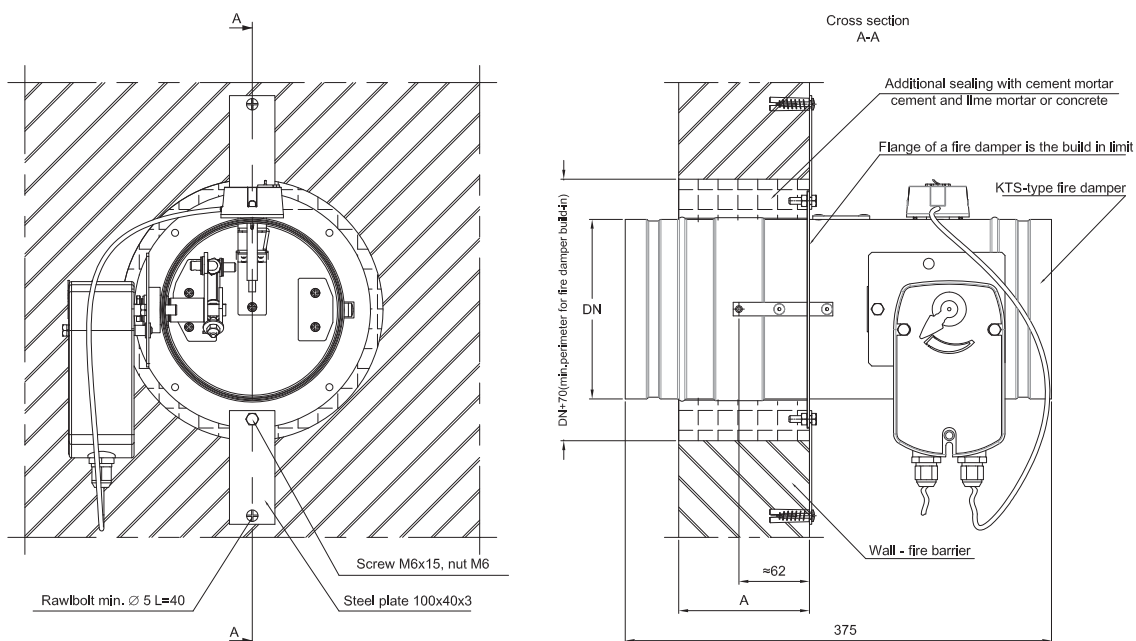

Fig. 5.
Variant II – Recommended by SMAY company (figure 5)
2. Install the mounting plate (as shown in the figure 5) to the fire damper using M6 screws.
3. Make holes for the rawbolts as shown in the figure 5.